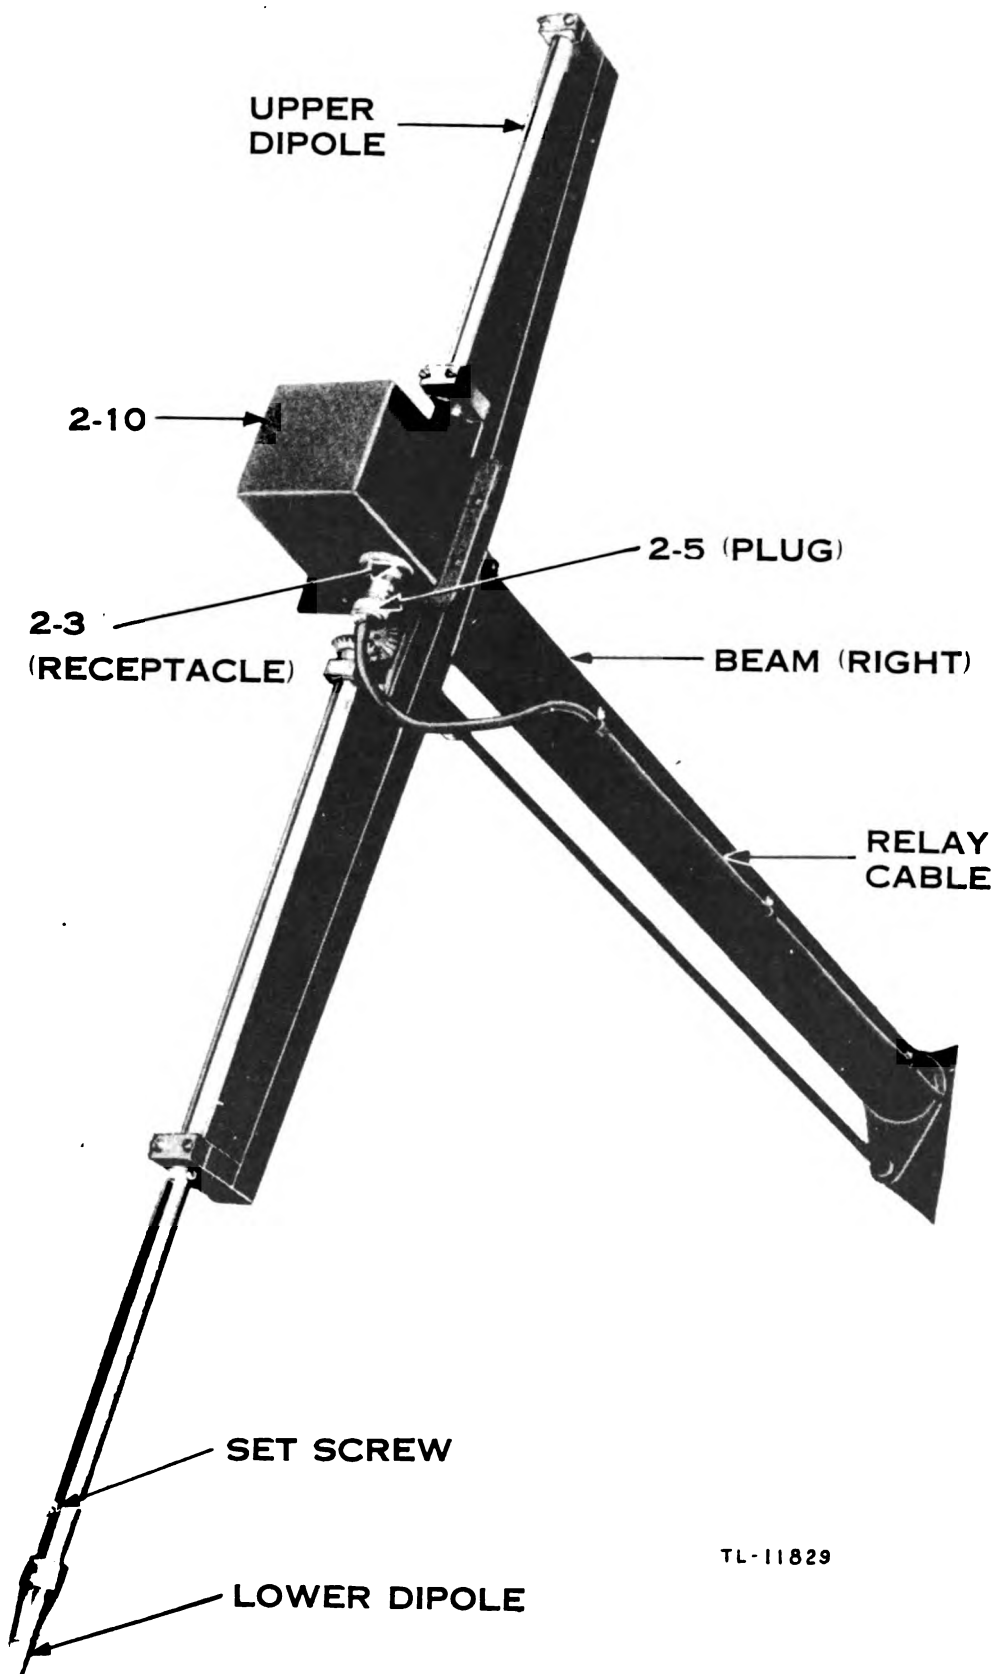

Figure 18. Right Adcock beam and dipole assembly.
(6) Put the set screws in place. The set screw now acts as a stop to prevent the lower dipoles from being lowered too far and falling out (fig. 18).
(7) Extend the lower dipoles to their full length (set screw against lower end of slot in sleeve).
(8) Attach one of these dipole Collectors AN-122-A to each Adcock Beam M-339-A (left) and M-340-A (right).